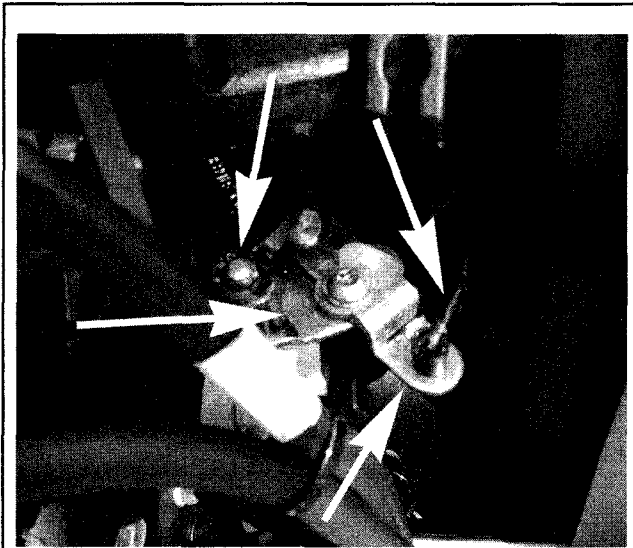

Fig. 18 All engines contain cable throttle and shift linkage...
- ◆ See Figures 18, 19, 20, 21, 22, 23, 24, 25 and 26